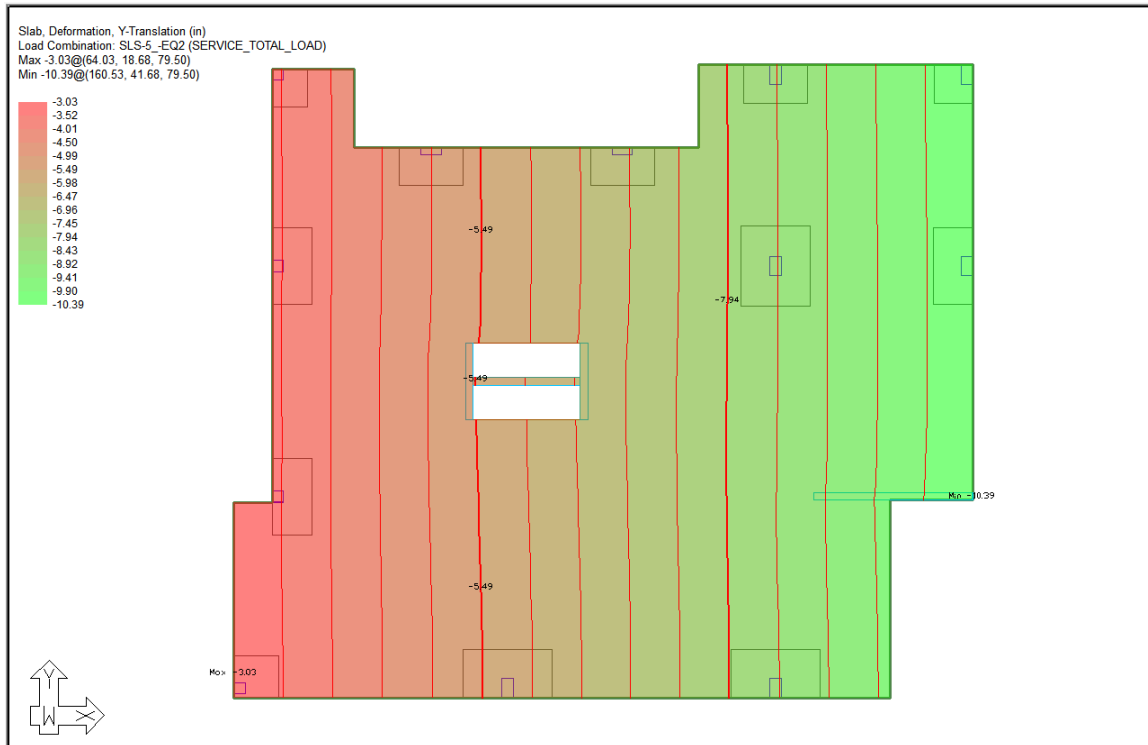

FIGURE 14-6
- In the *Analysis* tab of the *Results View* panel, expand the tree for *Slab* → *Deformation* and select *Y-Translation*. You will now see the Y deformation as shown in **FIGURE 14-6**.